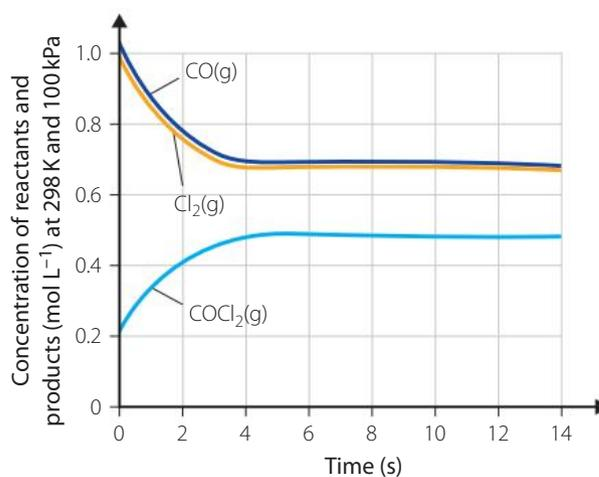

FIGURE 2.14 Concentrations of various chemical species over time
- 5 Figure 2.14 shows the concentrations of various chemical species over time.